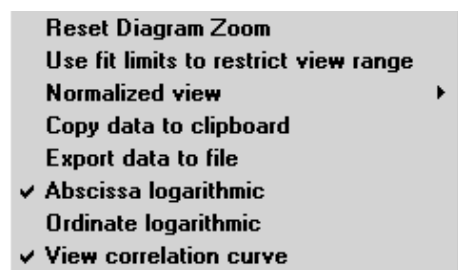

Fig. 3-108 Context menu of the Fit diagram
- Click on the diagram with the **right** mouse button to open the context menu (see Fig. 3-108).